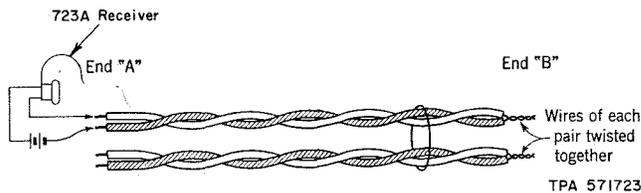

Fig. 5—Test For Crosses and Grounds
- (8) **Test for Crosses and Grounds:** At end (A) connect all the bunches together and to the sheath (ground). Connect one side of the battery to the sheath and the other side to one terminal of a receiver. Connect the other side of the receiver to a pair of shears, as shown in Fig. 5.